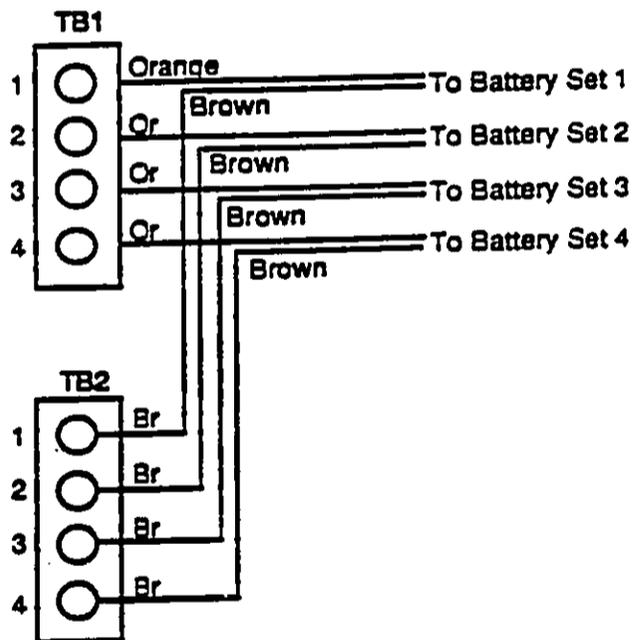

Fig. 2-20
- 3 Connect the battery set installed in Step 2 to the connectorized cable assembly. Each cable assembly is numbered from 1 to 4. See Fig. 2-20 for terminal block connections.